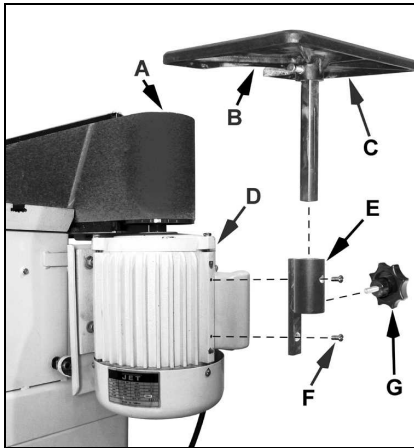

Fig 6
Attach the extension bracket (E, Fig. 6) to the side of the motor (D) with 2 socket head cap screws (F).